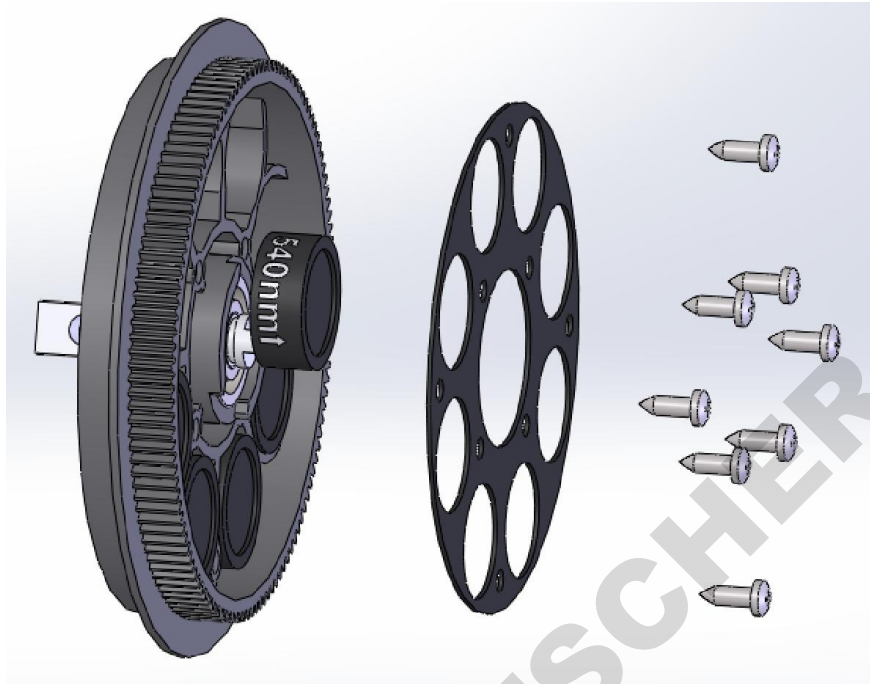

fig 59
- b. Take off the fixing plate on wheel and put the optical filters onto the wheel and fix filter by fixing plate. Arrows on filters should be same as light incident direction(Fig 59).